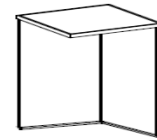

Fig.2
- Remove the mounting plate. (Fig. 2)